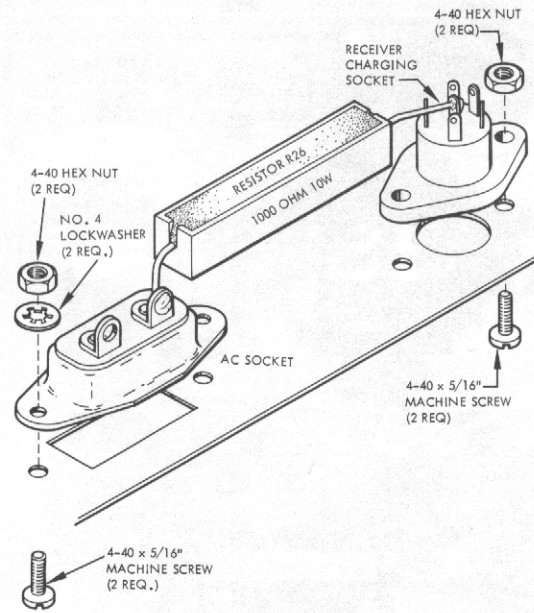

Figure 27. Installation of Charging Resistor
- 202. Install AC socket on inside bottom of Tx case. Position terminal as shown. Attach with two 4-40 x 5/16" screws, lockwashers and nuts. (Figure 27)
- 205. Solder 5-1/4" red wire from (Q) on logic board to end terminal on AC socket.